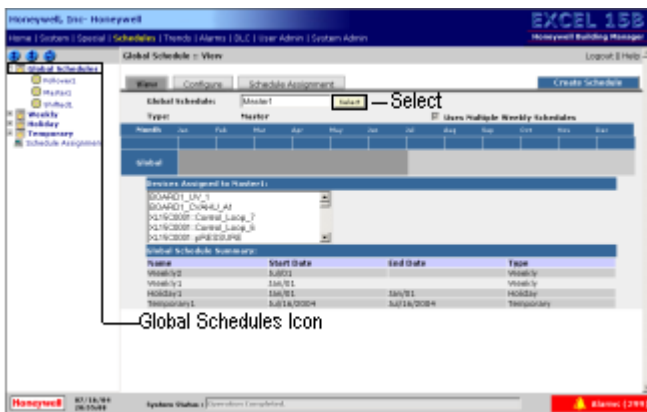

Fig. 17. Global Schedules::View Page
1. Click "Schedules" on the Excel 15B menu bar. The "Global Schedule::View" page is displayed (refer to Fig. 17).
- Click “Schedules” on the Excel 15B menu bar. The “Global Schedule::View” page is displayed (refer to Fig. 17) with the details of the first Global Schedule.
1. Click “Schedules” on the Excel 15B menu bar. The “Global Schedule::View” page is displayed (refer to Fig. 17) with the details of the first Global Schedule.
1. Click “Schedules” on the Excel 15B menu bar. The “Global Schedule::View” page is displayed (refer to Fig. 17).